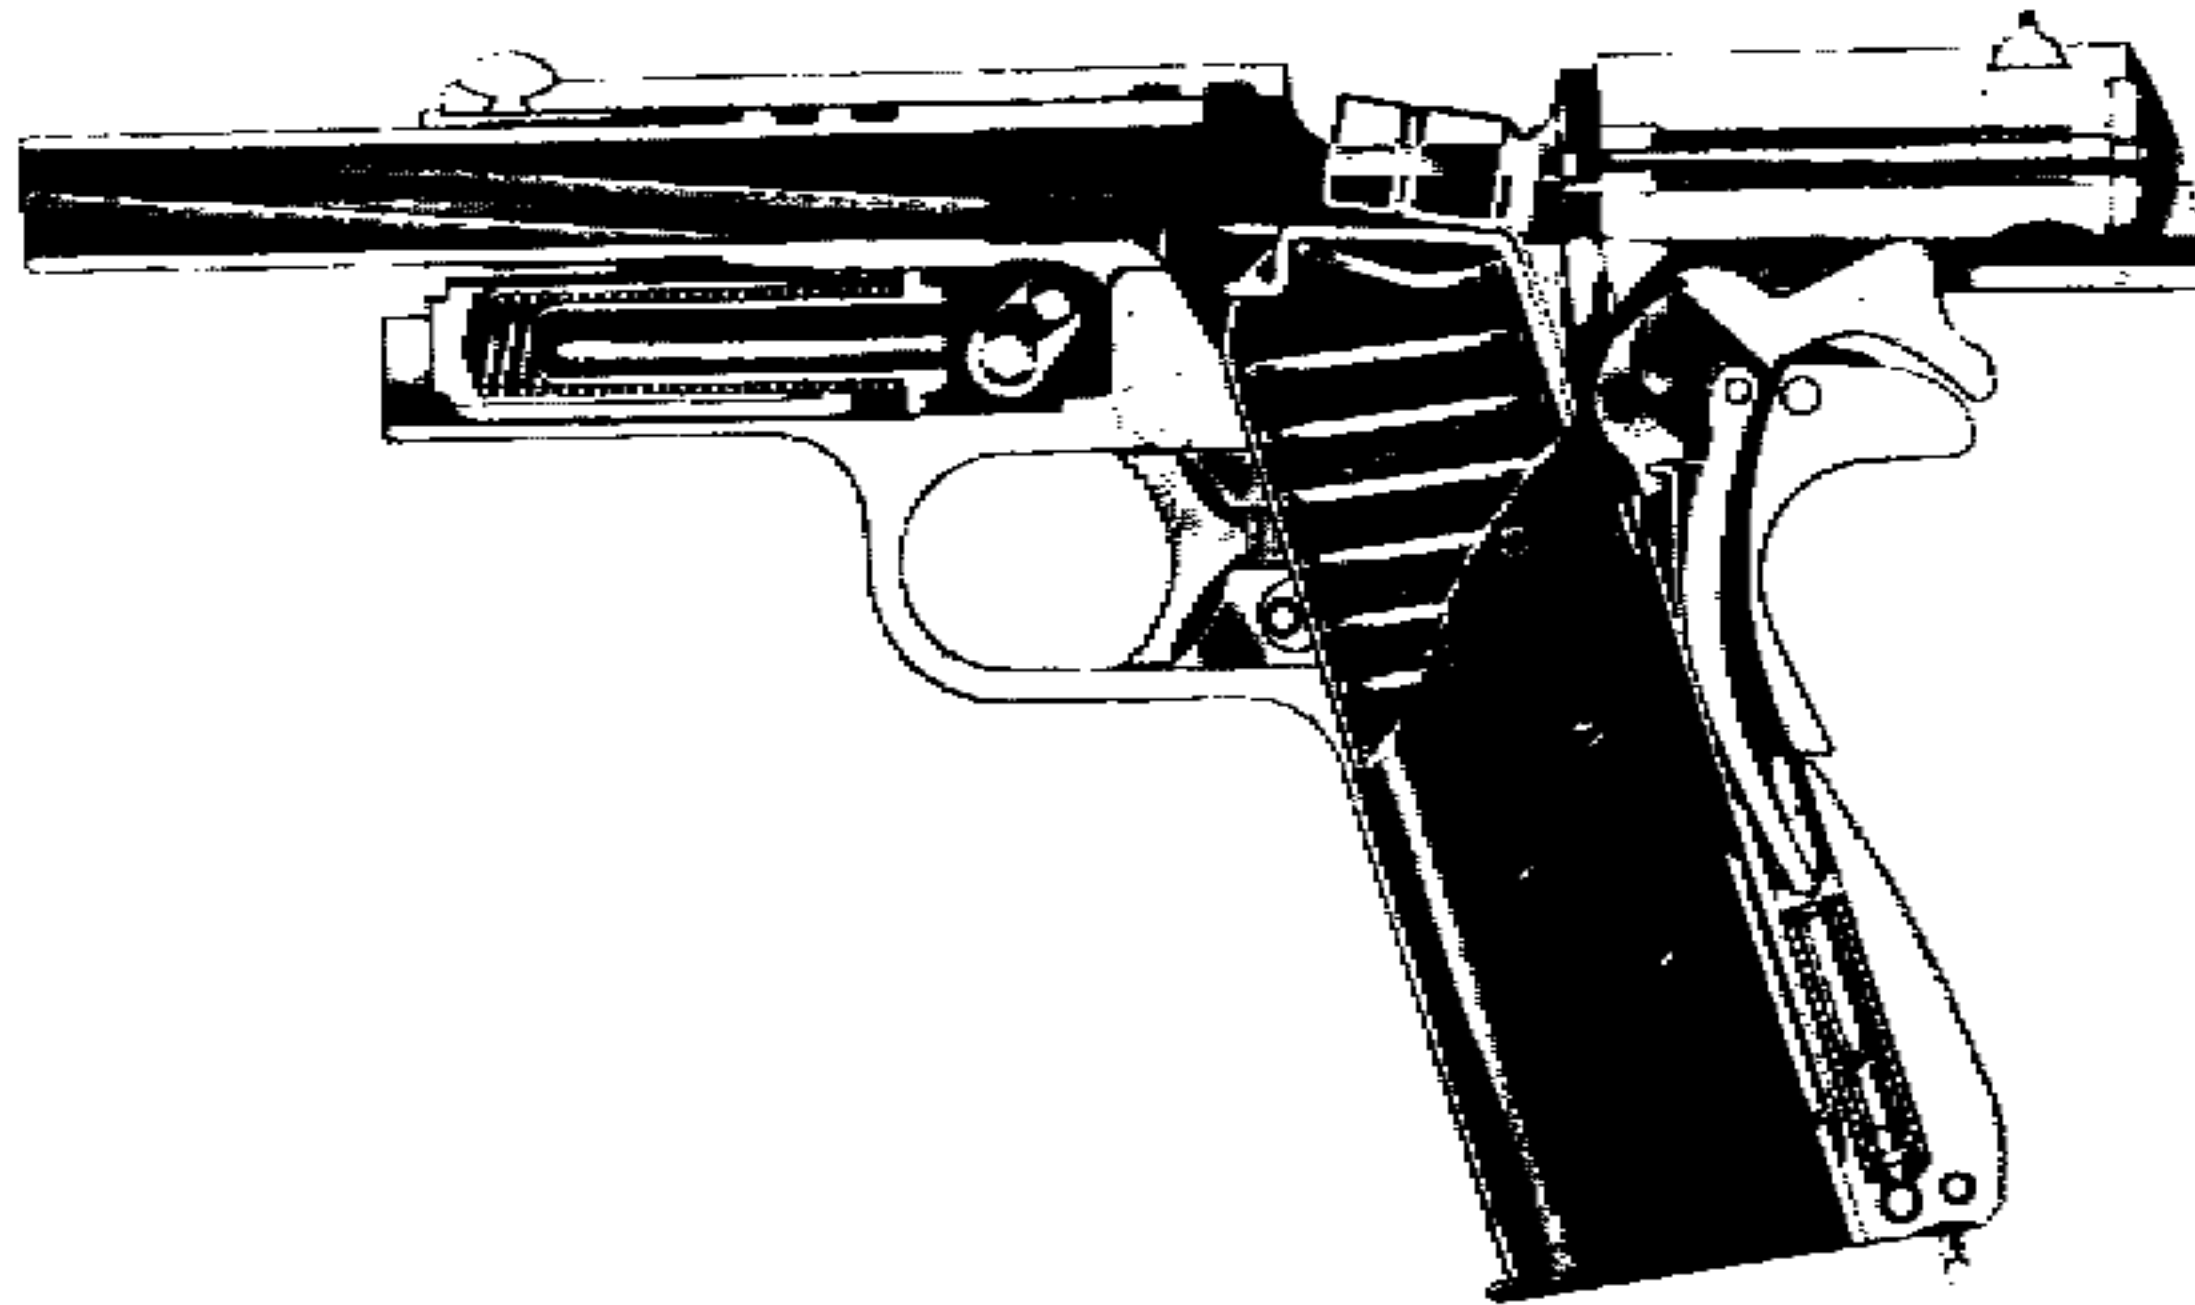

Figure 19. — Sectional View of Pistol M1911A1, Slide Back, Cartridge Being Ejected, Hammer Back, Magazine Empty
f. The pressure of the gases generated in the barrel by the explosion of the powder in the cartridge is exerted in a forward direction against the bullet, driving it through the bore. Pressure is also exerted in a rearward direction against the face of the slide, driving it and the barrel backward together. The slide travels the full distance while the barrel moves about $\frac{1}{8}$ inch. The downward swing movement of the barrel disengages it from the corresponding grooves in the slide. The barrel is then stopped in its lowest position. The slide continues to move to the rear, opening the breech, cocking the hammer, extracting and ejecting the empty shell, and compressing the recoil spring until the slide reaches its rearmost position (fig. 19). The return movement of the slide under the pressure of the recoil spring catches the cartridge, forcing it forward. The lips on the magazine, as well as the loading ramp on the rear end of the barrel, guide the cartridge into the chamber.